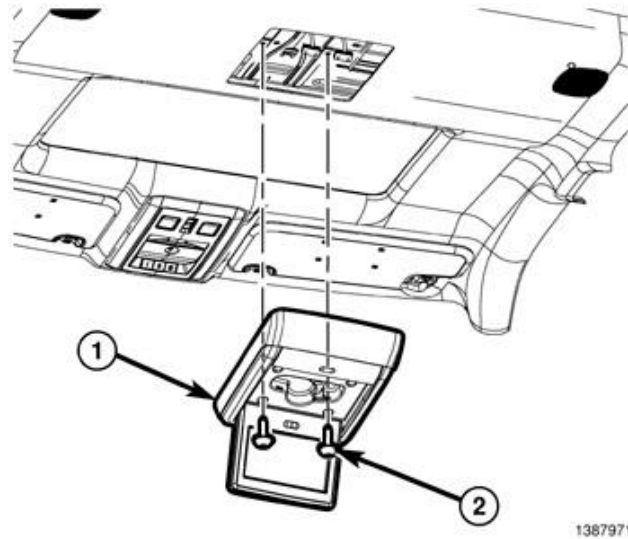
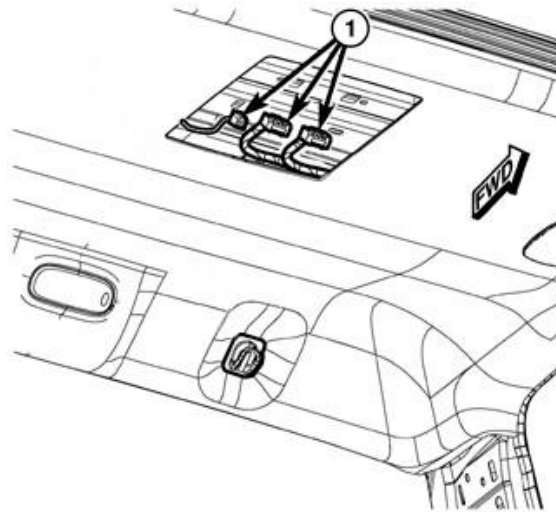

Figure 45 – Rear Seat DVD Monitor
Figure 46 – DVD Monitor Electrical Connectors
- 15. If equipped with DVD monitor, remove the screws (2) and separate the monitor (1) from the roof (Figure 45).
- 16. If equipped with DVD monitor, disconnect the electrical connectors (1) (Figure 46).
43. If equipped with DVD monitor, connect the DVD monitor electrical connectors (1) (Figure 46). Position the DVD monitor to the roof then install and tighten the screws (2) (Figure 45).